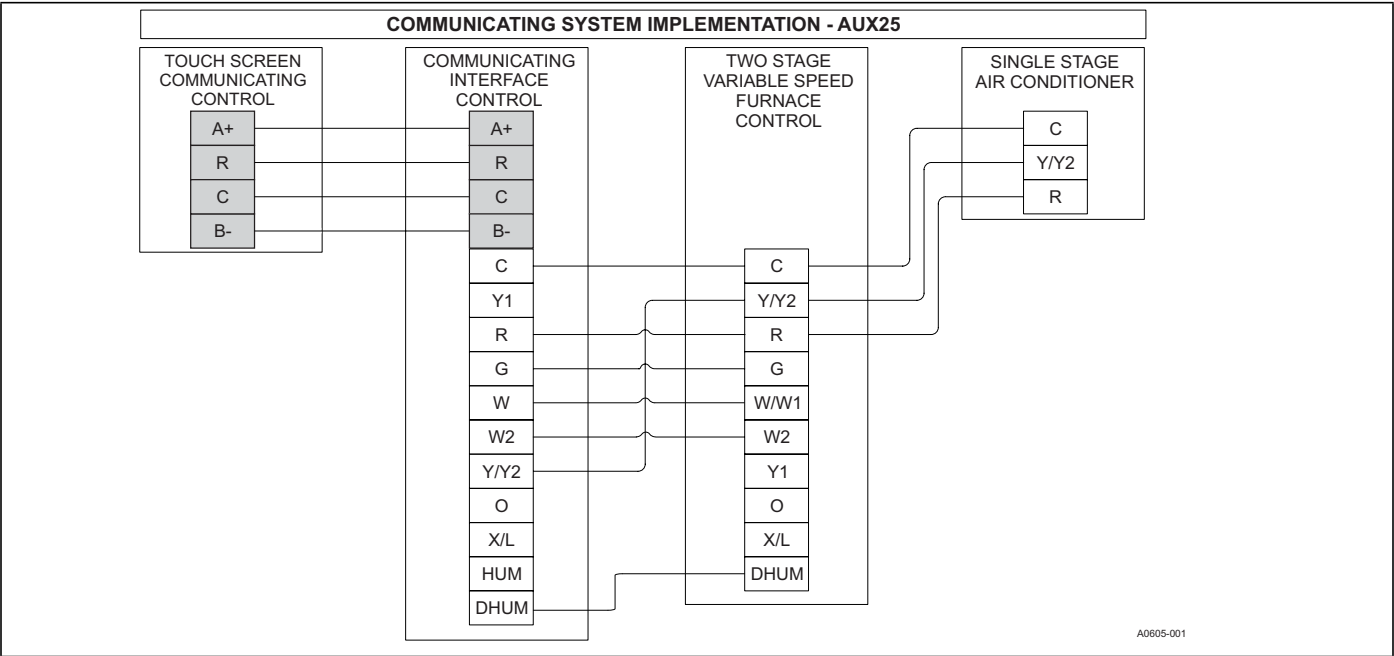

FIGURE 3: Two Stage Furnace with Single Stage A/C
4. Connect the applicable 24 VAC outputs from the Communicating Interface Control to the 24 VAC inputs on the non-communicating indoor unit. See Figures 3 or 4.
5. Connect all communicating system components. See Figures 3 or 4.